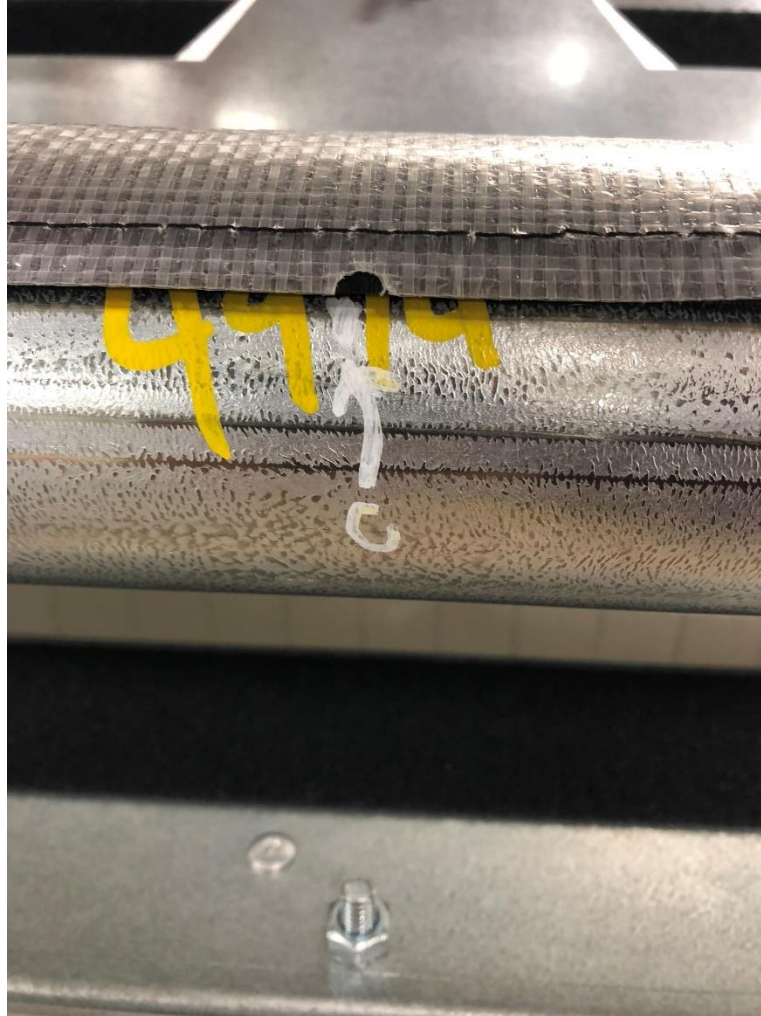

Figure 24: Drive Pipe Mark for Center Panel
3. Ensuring that the front panel is still held, navigate the center panel behind the lead edge bar and over the drive pipe. Use the half-moon notch located at the middle of the center panel and the mark located at the center of the drive pipe to align the center panel. (If there is no center mark on drive pipe, measure and mark the center). Secure the panel to the drive pipe with the hook and loop fastener that is sewn to the panel. Refer to Figure 24 for aligning the center panel.